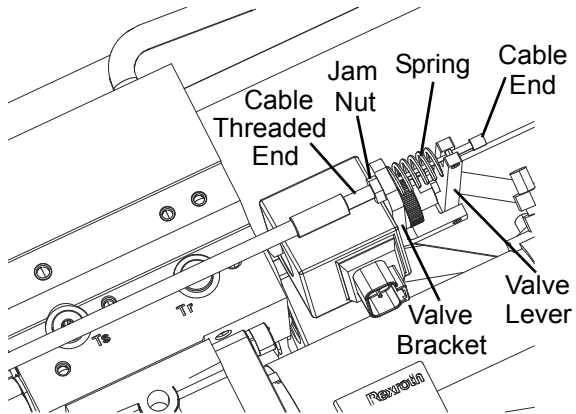

Figure 1
2. See Figure 1 for cable installation at cylinder.